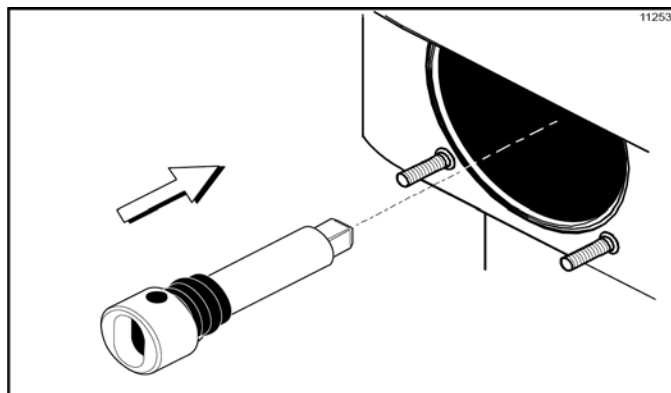

Figure 6-3
2. Install the shake beater driveshaft through the rear shell bearing in the freezing cylinder and engage the square end firmly into the driveshaft coupling. Make sure the driveshaft fits into the drive coupling without binding. (See Figure 6-3.)